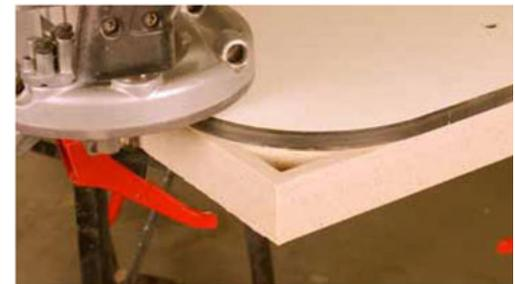

Figure 15C
- This method may be used up to 9" radius, requiring 1–3 strips placed on the angle. (FIG. 15C)